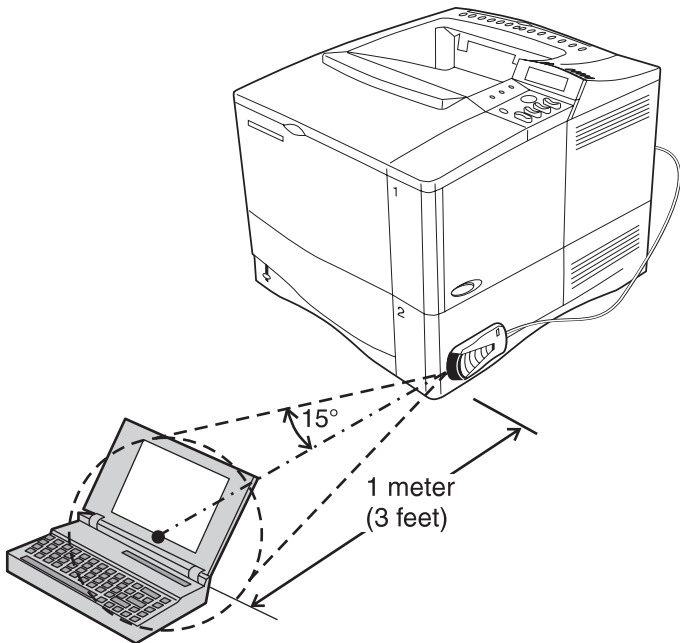

Figure 5 Alignment of Devices Used for Printing
- 1 Align your portable computer (or other portable device equipped with an IrDA-compliant IR window) within 1 meter (2 to 3 feet maximum) of the HP Fast InfraRed Receiver. The IR window must be at an angle of +/- 15 degrees to ensure an effective connection for printing. Figure 5 illustrates the required alignment of devices necessary for printing.
If the status indicator does not light up, realign the HP Fast InfraRed Receiver with the IR port on the sending device, re-send the print job, and maintain the alignment of all devices as shown in Figure 5. If you have to move the equipment (for example, to add paper), make sure that all devices remain within the range of operation shown in Figure 5. Only then is the required connection maintained. If the connection is interrupted before your print job is complete, the HP Fast InfraRed Receiver status indicator turns off. You have up to 40 seconds to resume the connection and continue the job. If the connection is resumed within this time, the status indicator lights up again.
The connection is permanently broken if the sending port is moved out of operating range (see Figure 5), or if anything passing between the ports blocks transmission for more than 40 seconds. (This block could be a hand, paper, or even direct sunlight). Depending on the size of the job, printing with the HP Fast InfraRed Receiver may be slightly slower than printing with a cable connected directly to the parallel port.